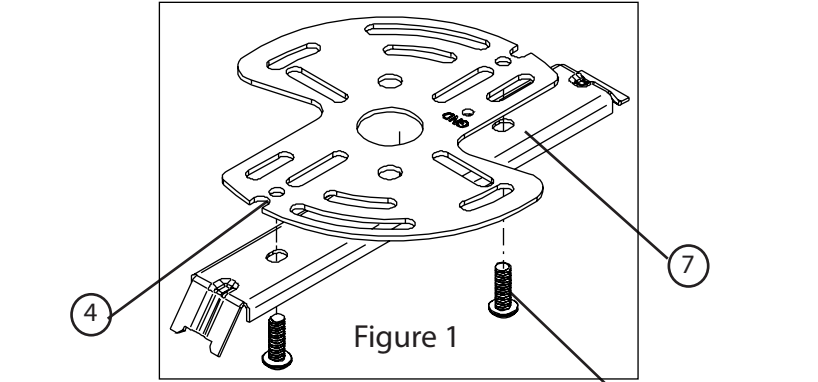

Figure 1
2. Secure mounting bracket (7) and J box bracket (4) using two 1/2" screw (1), See Fig 1.